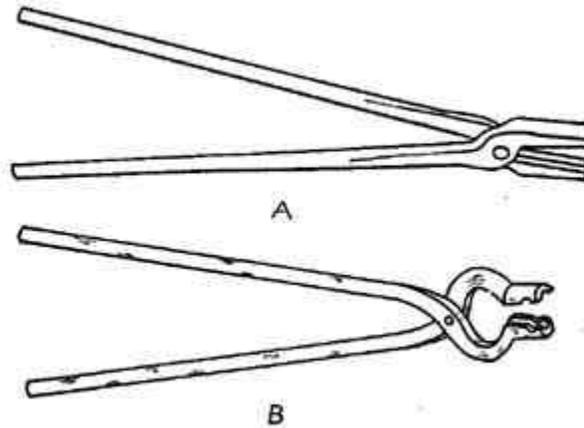

FIG. 245.—Types of tongs.
278. Tongs.--At least one or two pairs of tongs will be needed. Various types are available, but the hollow-bit, curved-lip bolt tongs are probably the most useful. Flat bars as well as round rods and bolts can be held in them, and the curved part back of the tip makes it possible to reshape them easily to fit different sizes of stock. By grinding, filing, or sawing a groove crosswise in each of the lips, the tongs can be made to hold links practically as well as regular link tongs (see Fig. 245). Tongs 18 to 20 in. long are a good size for average work.
Fig. 245.-Types of tongs. (A). Flat-jawed hollow-bit tongs. (B). Hollow-bit curved-lip tongs. This style is very good for the farm shop. Flat bars as well as round rods and bolts can be held in them.